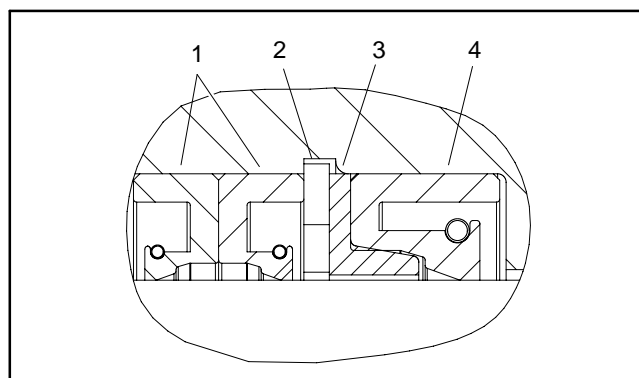

Figure 88
11. Carefully remove dust seals, retaining ring, flange washer and shaft seal from the front flange (Fig. 88). Discard seals.
2. Install new seals into front flange (Fig. 88):